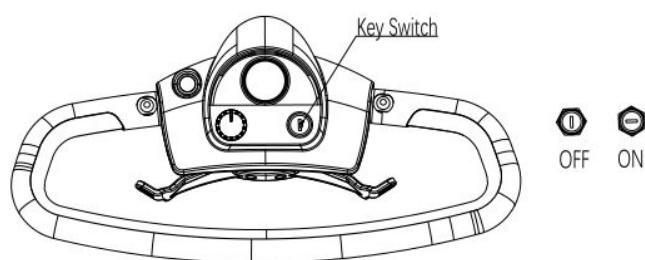

Figure 5.1
- 1.Ensure the key switch is turned to the OFF position (Figure 5.1).
- 2.Adjust the seat to an upright position and flip the side armrest back, as shown in (Figure 5.1).